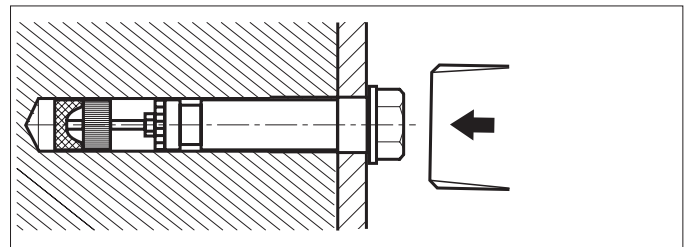

Fig. 4
- ⇒ Drive in both segment anchor bolts with light hammer blows (Fig. 4).